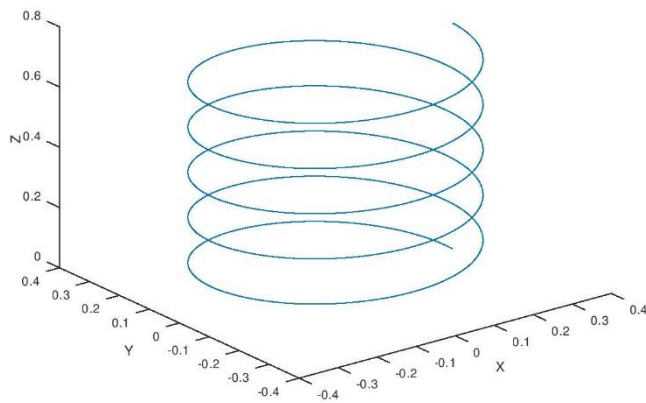
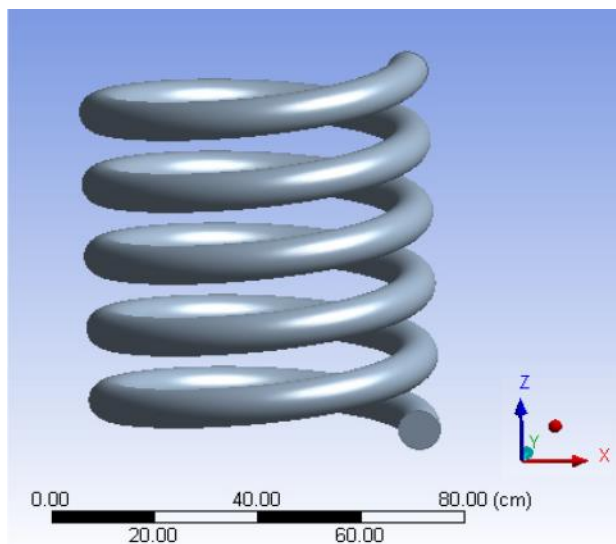

Fig. 1 The helical curve.
Fig. 2 The 3-D helical pipe.
where “ t ” is not time but a dummy parameter to help tracing the curve. For this task, the curve is traced from $t = 0$ to $t = 10\pi$ (radian), with $R = 0.3$ m and $C = 0.15/(2\pi)$ m. (The helix is “raised” by 0.15 m every revolution.) The helical curve is shown in Fig. 1. The 3-D helical pipe (with the helical curve as its center) with a circular cross section with radius = 4 cm (diameter = 8 cm) is shown in Fig. 2.
- (1) A figure that shows the geometry of the stretched helical pipe (no need to show the geometry of the “straight pipe” as it is obvious), in the fashion of Fig. 2.
- (2) For both runs, contour plots of *temperature* and *velocity magnitude* on the surface of outlet, similar to deliverable #2 for Task 1.
- (3) For both runs, the values of the averaged outlet temperature, T_{out} , and the energy flux at outlet, H . Are those values the same across the three cases in Task 1 and 2?